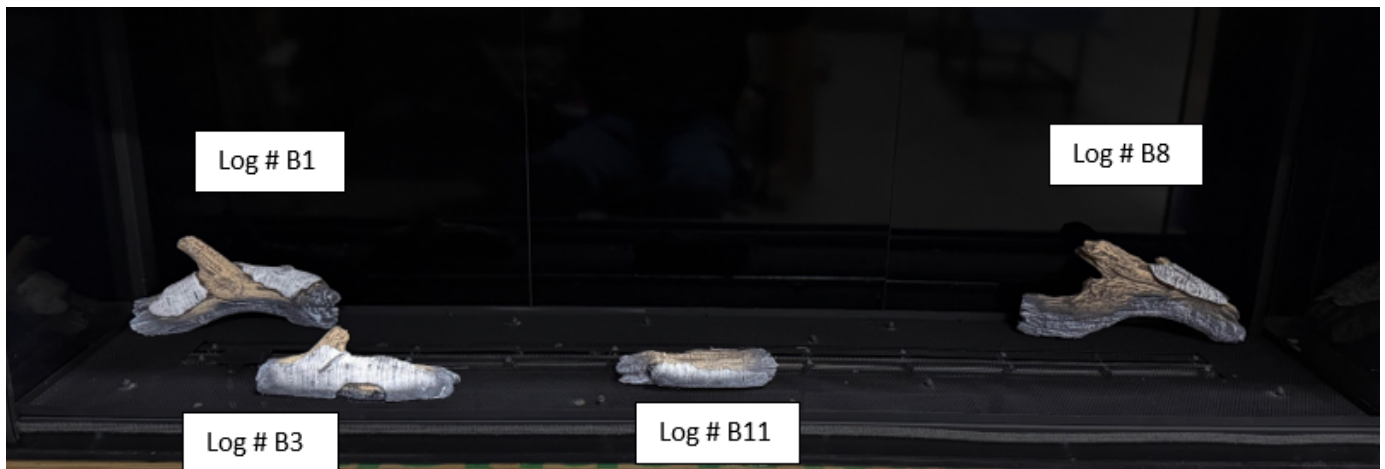

Figure 7 - Log #B1, #B3, #B8, and #B11
2. Install log #B1 (Pin #1 & #2), #B3 (Pin #9 & #10), #B8 (Pin #7 & #8), and #B11 (Pin #12 & #13). See Figure 7.